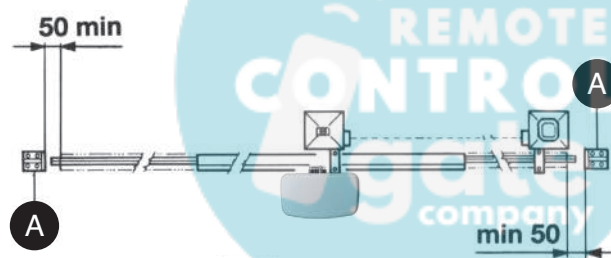

FIG. 2
- Besides the electrical or mechanical limit switches available on the operators, there must be, on both ends of the installation, a fixed mechanical stopper which stops the gate in the unlikely event of bad functioning of the limit swithces on the operators. For this reason the fixed mechanical stopper must be of an adequate size to withstand the static and kinetic forces generated by the gate (A) (Fig.2).
The guide must be provided with two mechanical stops at its ends (A) (Fig. 2).